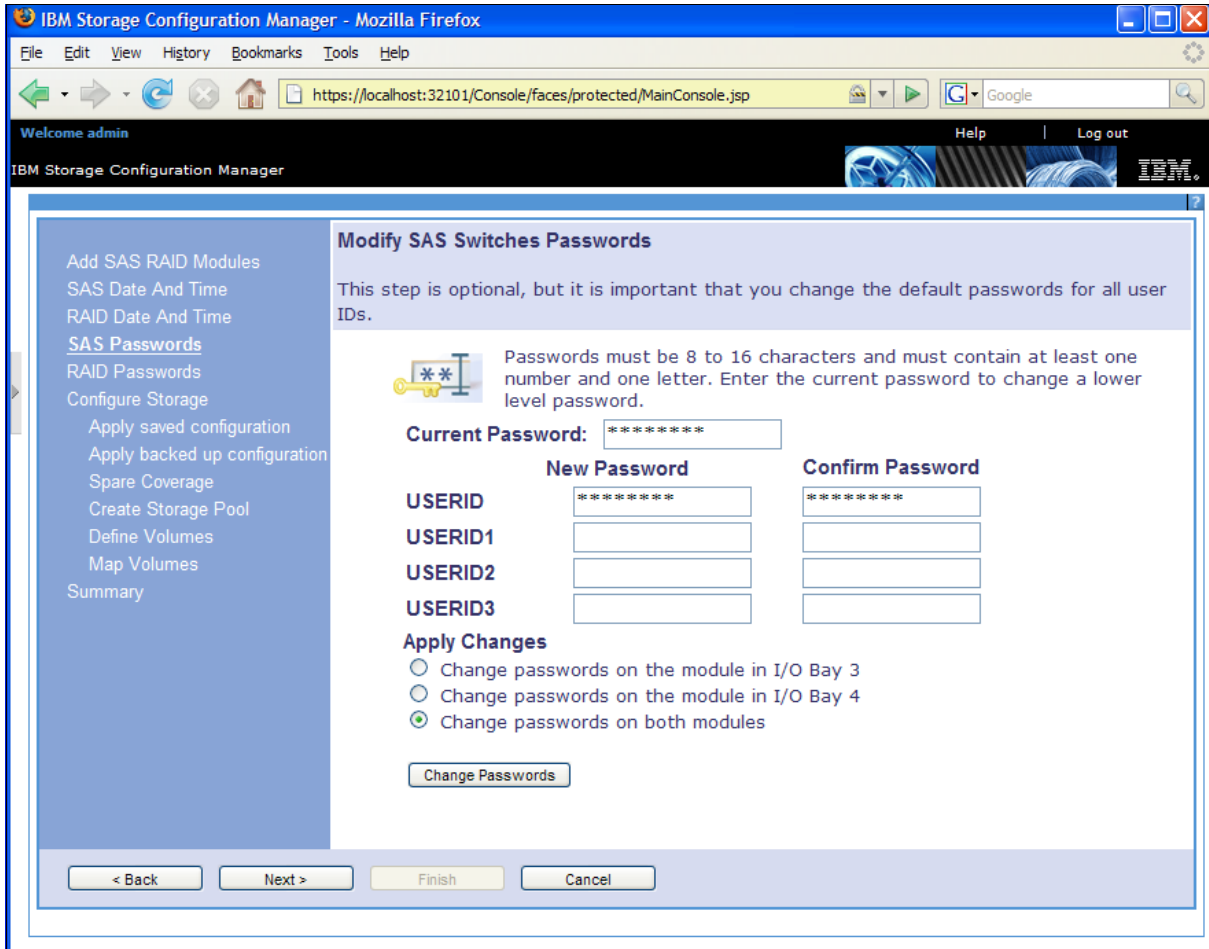

Figure 2-36 Modifying SAS Switch Passwords
5. (Optional) The “Modify Switches Passwords” panel (Figure 2-36) allows you to change the default password for the built in USERID account. Select the **Change passwords on both modules** radio button and click **Change Password**. Click **Next**.